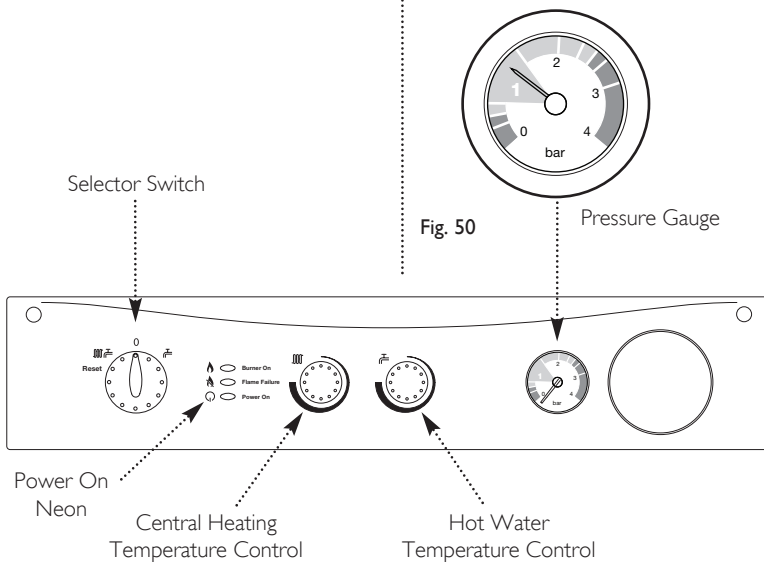

Fig. 51
2. Set the temperature controls to maximum and the selector switch to the Off position (Fig. 51).
5. Turn the selector switch fully anticlockwise against the spring pressure to the reset position and hold for 2 seconds to reset the boiler (Fig. 51).
6. Turn the selector switch to the Central Heating and Domestic Hot Water position (☀️/🚿). The power On neon (Ⓢ) will illuminate (Fig. 51).